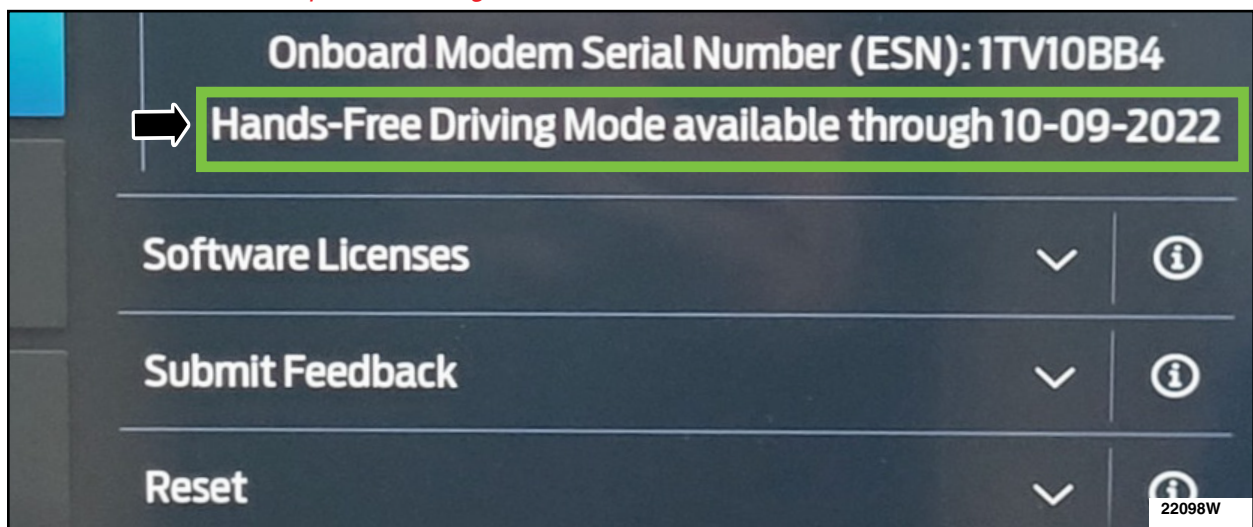

FIGURE 25
31. On the center display screen, navigate to Settings > About SYNC > Hands-Free Driving Mode available through DD-MM-YYYY. Verify that expiration date is in the future. See Figure 25.